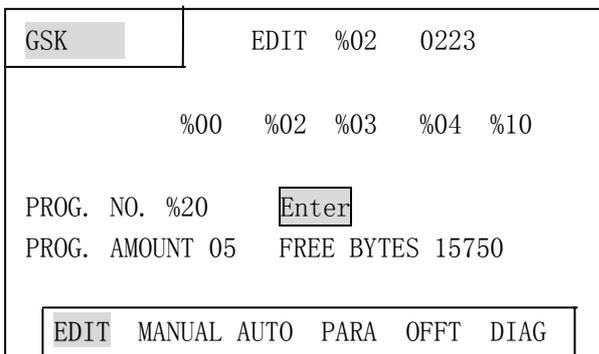

Fig. 4 Inputing a program number.
The system displays as Fig. 4 when  is pressed in the state of catalogue search of part program.
- (1) Press  in the state of catalog search of part program.
- (2) Input a new program number which does not exist in the program catalog list with 2-digit by keyboard. See Fig. 4.
- (3) Press .
- (4) After part programs are created, the system will automatically enter "Edit" mode.